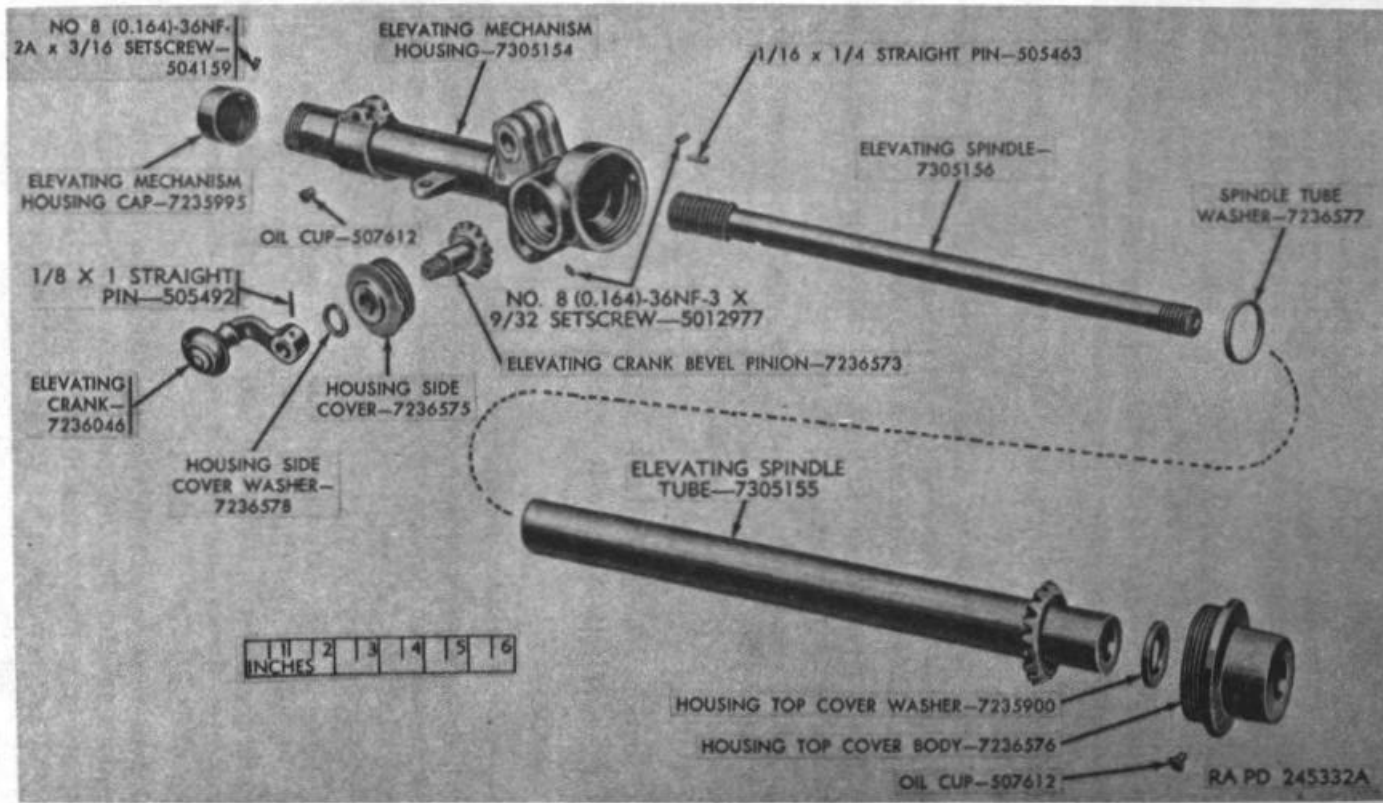

Figure 45. Elevating mechanism assembly-81-mm mortar mounts M23 and M23A1.
b. Remove setscrew which locks top cover body to elevating mechanism housing and unscrew top cover body (fig. 45), using spanner wrench 6128199 (fig. 8). Remove top cover washer from inside of top cover body.
c. Grasp top of elevating spindle and withdraw spindle, with elevating spindle tube (fig. 45) from housing. Screw spindle downward through tube (left-hand thread) and withdraw it through bottom of tube. Remove spindle tube washer (fig. 45) from base of top gear seat in housing.
d. Remove setscrew which locks housing side cover to elevating mechanism housing (fig. 45) and unscrew side cover with assembled parts, using spanner wrench 6128199 (fig. 8). Punch out straight pin and unscrew elevating crank from bevel pinion (left-hand thread), slide side cover off at bevel pinion, and remove housing side cover washer (fig. 45) from interior of cover.
e. Remove setscrew from elevating mechanism housing cap (fig. 45) and unscrew cap from housing.
a. Screw elevating mechanism housing cap on lower end of elevate ing mechanism housing, aline setscrew holes, and screw in No. 8 (0.164)-36NF-2A x 3/16, setscrew (fig. 45).
b. Install housing side cover washer and slide housing side cover on shaft of elevating crank bevel pinion (fig. 45), threaded end first. Screw elevating crank onto bevel pinion (left-hand thread), aline pin holes, and drive in 1/8 x 1 straight pin (fig. 45). Screw housing side cover, with elevating crank bevel pinion and elevating crank (fig. 45) into side of elevating mechanism housing, using spanner wrench 6128199 (fig. 8). Aline cover screw holes and screw in No. 8 (0.164)-36NF-3 x 9/32 setscrew (fig. 45).
c. Insert elevating spindle into lower end of elevating spindle tube (fig. 45), narrower end first, and screw it into tube (left-hand thread) so that lower threads are completely covered. Position spindle tube washer (fig. 45) on top gear seat so that it rests on rim at base of seat, oil grooves up, and key in rim of seat engaged in its slot. Lower the elevating spindle tube (fig. 45) with assembled parts into the housing until the bevel gear on the tube rests on the spindle tube washer and engages the elevating crank bevel pinion. It may be necessary to rotate the tube slightly in order to mesh gear teeth properly.
d. Place housing top cover washer in housing top cover-body, slide cover down over top of elevating spindle, and screw it into top of housing (fig. 45), using spanner wrench 6128199 (fig. 8). Align setscrew holes and screw in the No. 8 (0.164)-36NF-3 x 9/32 setscrew (fig. 45).